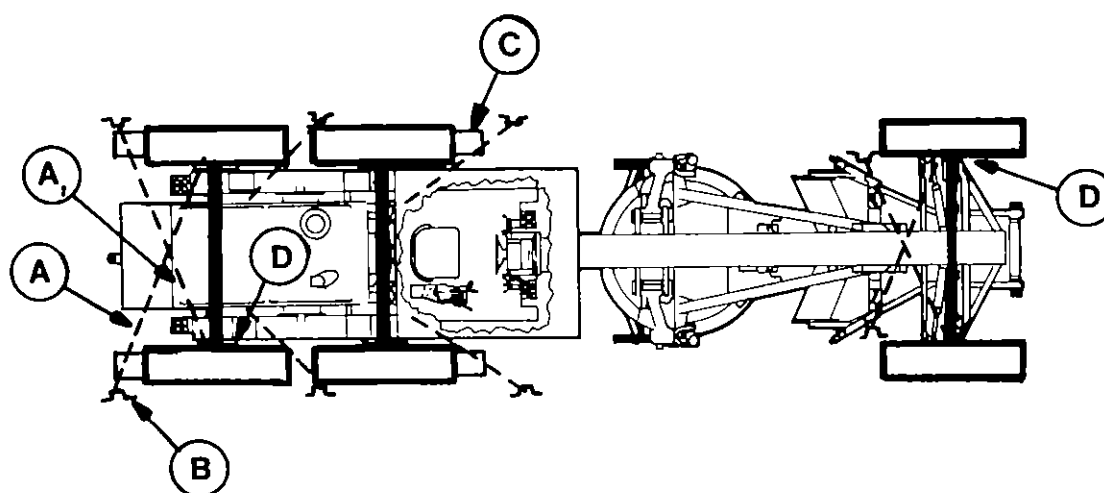

Figure 5-2. Blocking, chucking, and tiedown diagram for the model 130G grader on the M870 semitrailer.
(4) Blocking, bracing, shoring, and tiedowns are described in figure 5-2 and listed in table 5-2. This material is furnished by the shipper.
(5) A tiedown diagram compatible with standard loading practices that will offer adequate restraint against the forces encountered during movements at normal speeds is provided in figure 5-2. Details of the blocking, bracing, and tiedowns are given in figure 5-3.
(6) The turning radius of the tractor trailer combination is 89.5 feet curb to curb.